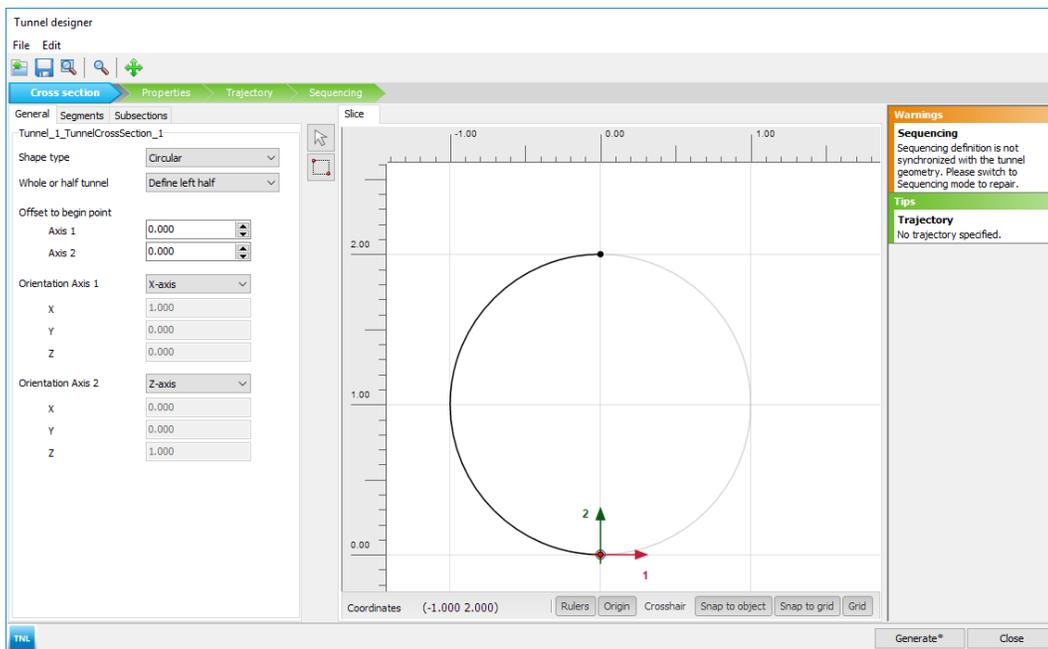

Figure 71: General tabsheet of the Tunnel designer
6. The left half of the tunnel is generated in this example. Select the **Define left half** option in the drop-down menu for the *Whole or half tunnel*. A screenshot of the **General** tabsheet after the proper assignment is given in Figure 71: General tabsheet of the Tunnel designer (on page 96).